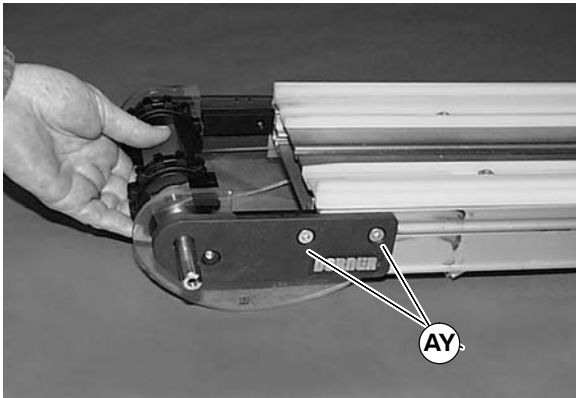

Figure 33
1. On side of conveyor, loosen two (2) fastening screws (AY of Figure 33). Remove head plate and spindle at same time.